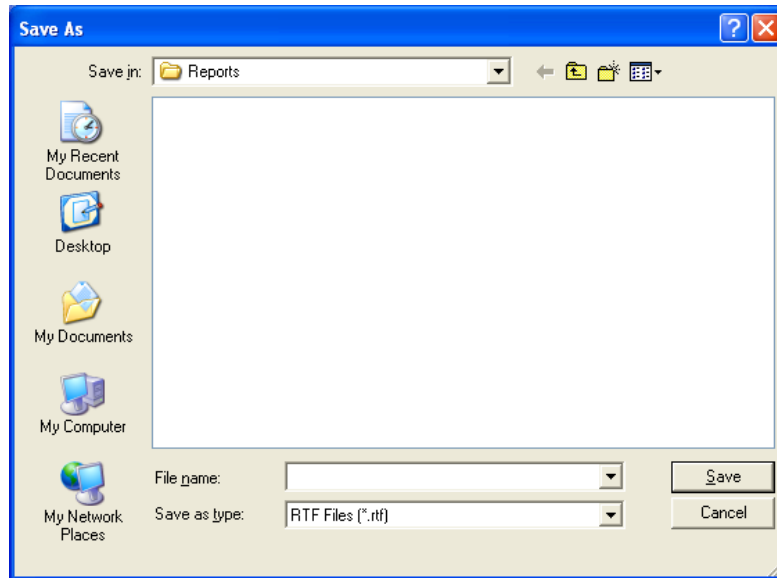

Figure 7-28
- To save the report on the screen, click the **Save to File** button or press *Alt+S*. The Save As box appears as shown in Figure 7-28. Reports are saved as rich text format file